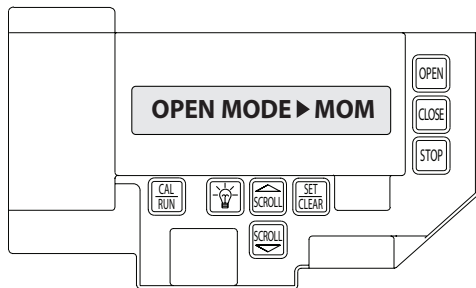

Figure 10
- 2) Press SCROLL  (up or down) until display reads "OPEN MODE>MOM" or "OPEN MODE>C-STP." **Figure 10.**
- 2) Press SCROLL  (up or down) until display reads "CLOSE MODE>MOM," "CLOSE MODE>C-STP" or "CLOSE MODE>C-REV." **Figure 10.**